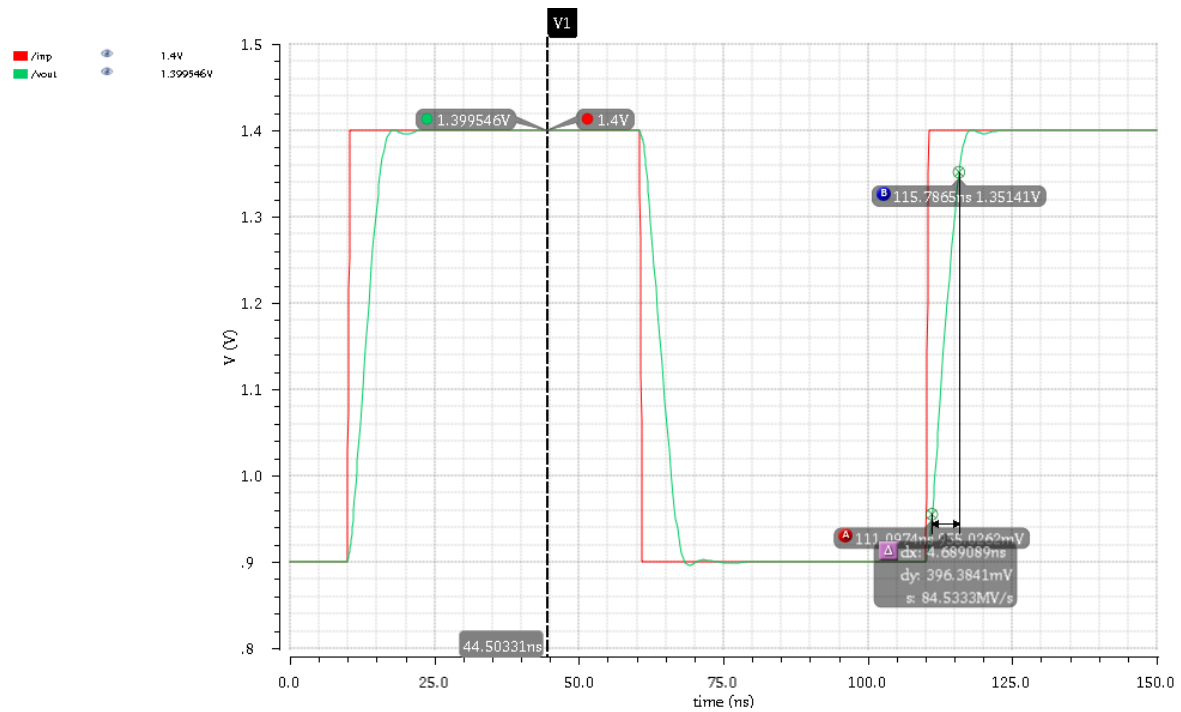

Fig. 2 An example transient simulation plot
4. Run a transient simulation in unity gain configuration to get a plot like below. Input signal should be 10MHz pulse with 500mV step from 0.9V to 1.4V. Calculate the slew rate of the response and create a plot similar to Fig. 2 below. (5 points)